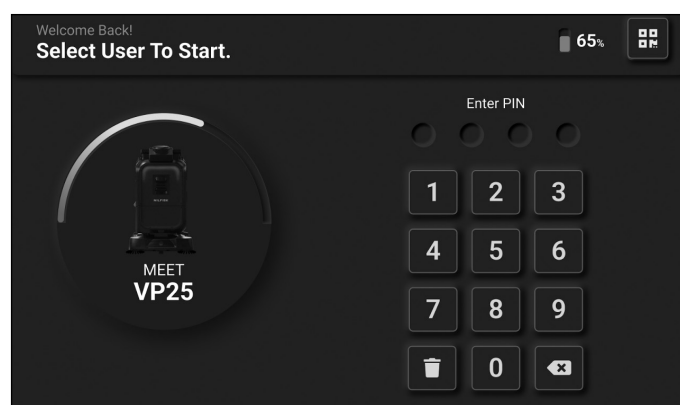

Figure 22
2. Enter your PIN (**Fig. 22**).